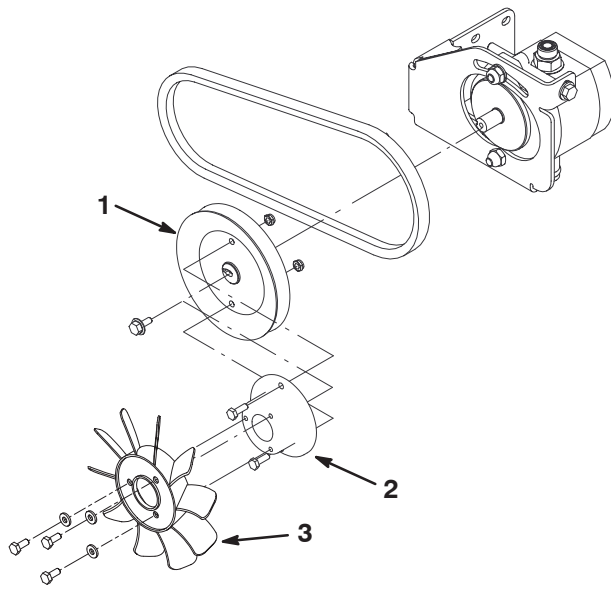

Figure 8
18. Mount the fan hub to the pulley with (2) 1/4–20 x 3/4” screws and nuts (Fig. 8).
19. Mount the fan to the fan hub with (3) 1/4–20 x 3/4” screws and flat washers (Fig. 8). Make sure the deep side of the fan is facing the fan hub.
20. Mount the pulley to the pump with a 1/4–20 x 3/4” flange bolt (Fig. 8).